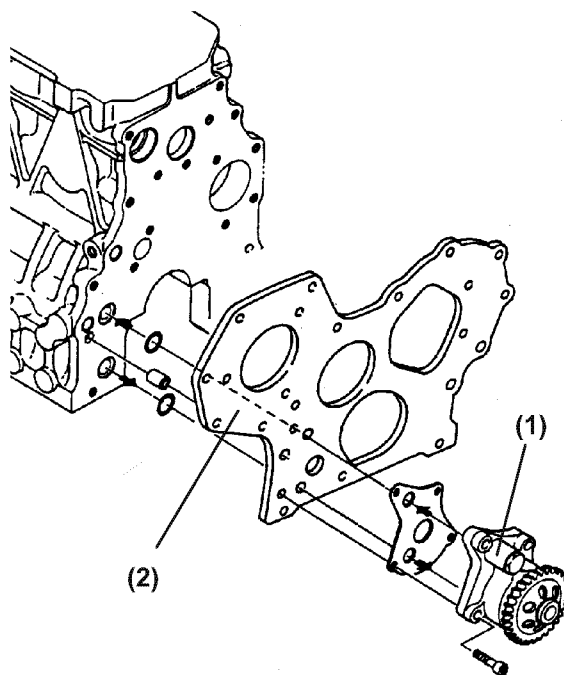

Figure 9-16
2. Remove the lubricating oil pump assembly mounting bolts. Remove the lubricating oil pump assembly (**Figure 9-16, (1)**) from the gear case flange (**Figure 9-16, (2)**).